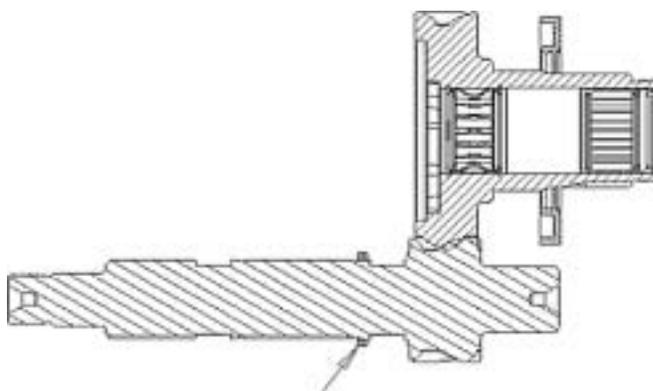

Figure 1. Countershaft spacer location (two spacers)
**Note that the TwistGear countershaft assembles in different order than the OEM countershaft.** Two washers are required in the position as shown in figure 1 (see arrow) before the retainer ring is installed. The second washer is included in the kit.